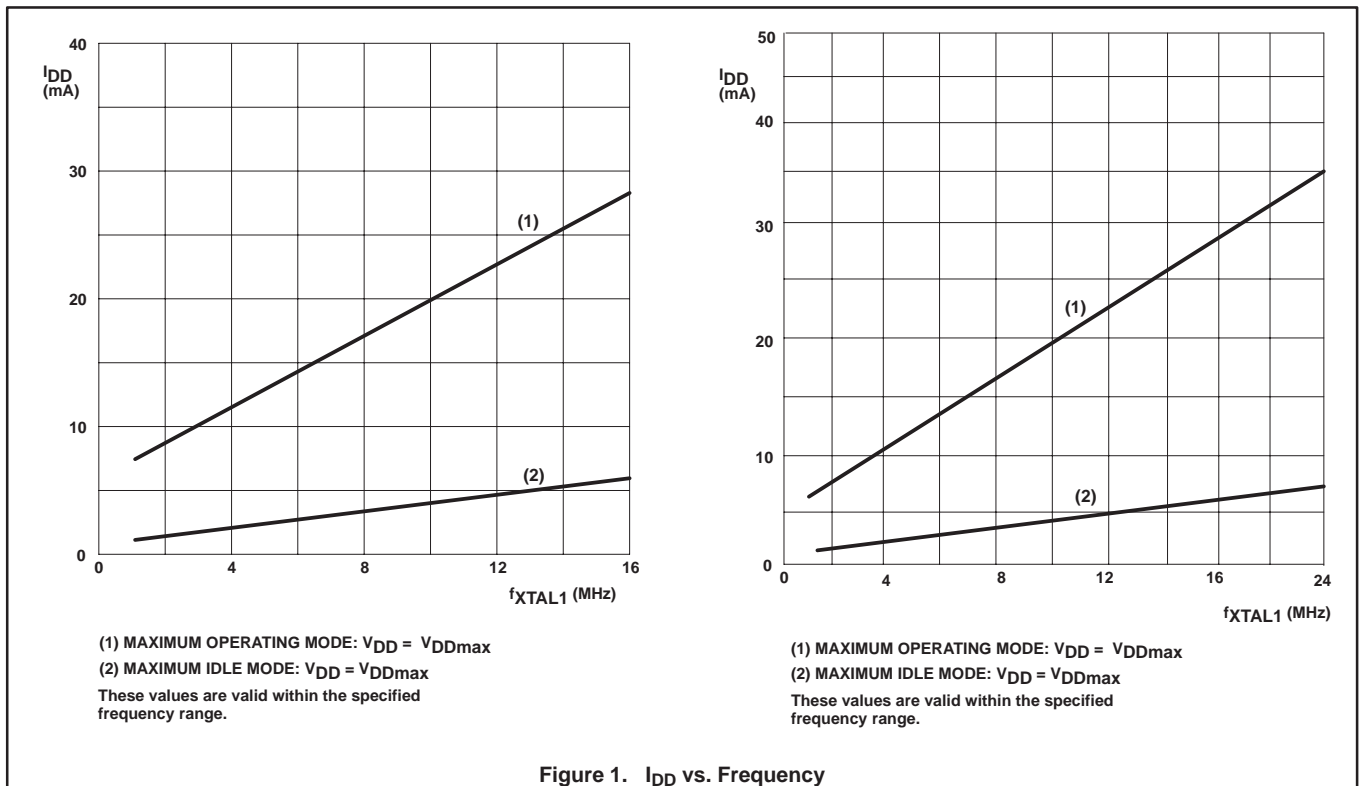

Figure 1.  $I_{DD}$  vs. Frequency
11.  $I_{DDMAX}$  for other frequencies can be derived from Figure 1, where  $\text{FREQ}$  is the external oscillator frequency in MHz.  $I_{DDMAX}$  is given in mA.